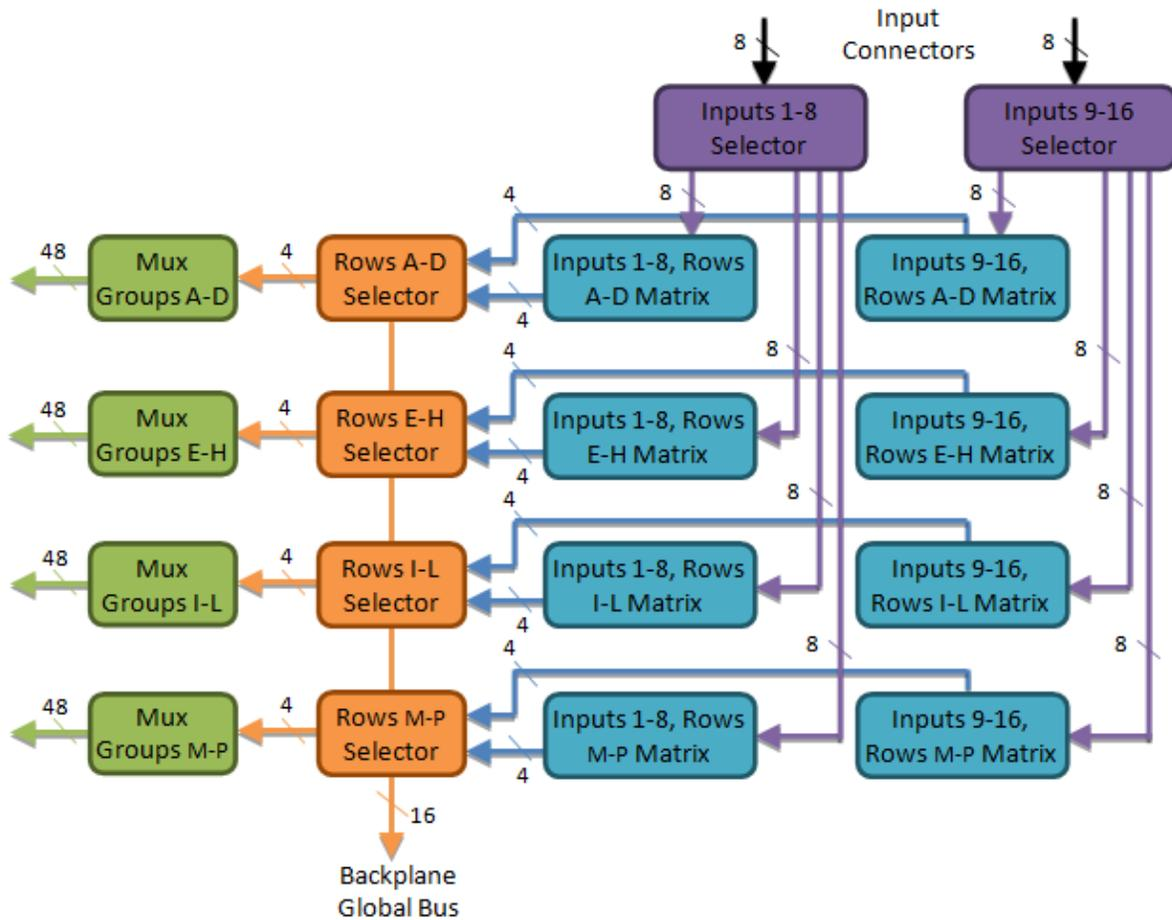

Figure 2-10: Diagram of the Switching Sections of the GX6192
Figure 2-10 describes the switching sections of the GX6192. Each section is shown in a different color.
- The input selector switches an Input channel to one of four groups of rows: A-D, E-H, I-L, M-P. Figure 2-10 includes a logic schematic of an input selector.